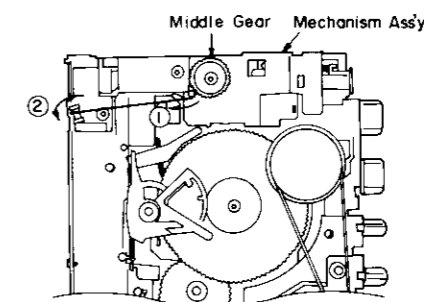

Fig. 4
2. Adjust the length of the dial cord to 182 ± 2mm from the center of the middle gear to the knot on the spring (see Fig. 4).